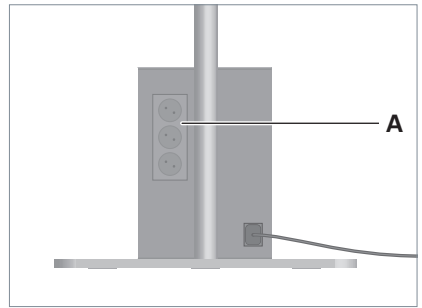

Fig. 11: Connecting devices.
- ▶ Plug the mains plug of the devices into a socket of the socket strip **A** at the supply unit, see Fig. 11.